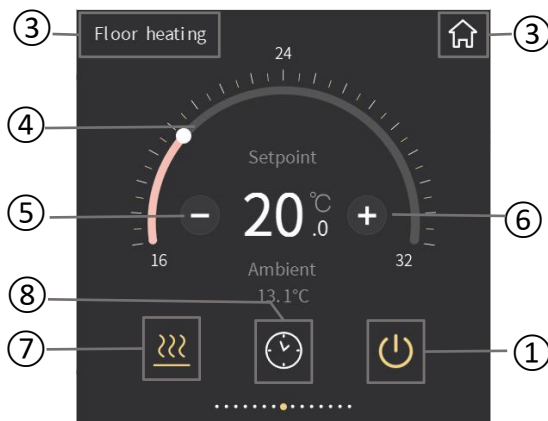
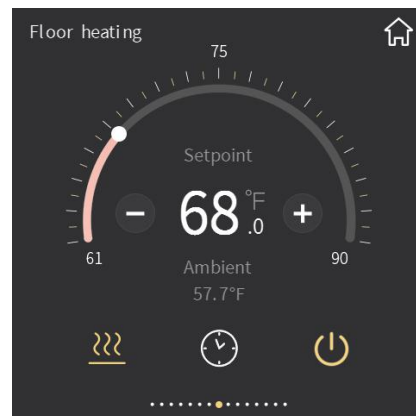

Fig.2.5.1
Fig.2.5.2
② This area displays the page description identification of Floor heating, user can define the description through ETS;
- ③ Return to the home page by touching this icon;
- ④ Adjust the setting temperature by sliding this ring slider;
- ⑤ The function of this icon is to decrease the temperature;
- ⑥ The function of this icon is to increase the temperature;
Adjusting the temperature by sliding the ring slider④ or touching the icon⑤ and icon⑥. For each touching of icon⑤ and icon⑥, the adjustment range is 0.5 degrees. When the setting temperature unit is set to degrees Celsius(°C), as shown in Fig.2.5.1, adjustment range of the setting temperature is 16~32°C by default; when the setting temperature unit is set to Fahrenheit(°F), the current temperature value will automatically convert to Fahrenheit value, as shown in Fig.2.5.2, adjustment range of the setting temperature is 61~90°F by default. The temperature adjustment range can be modified through parameter setting.